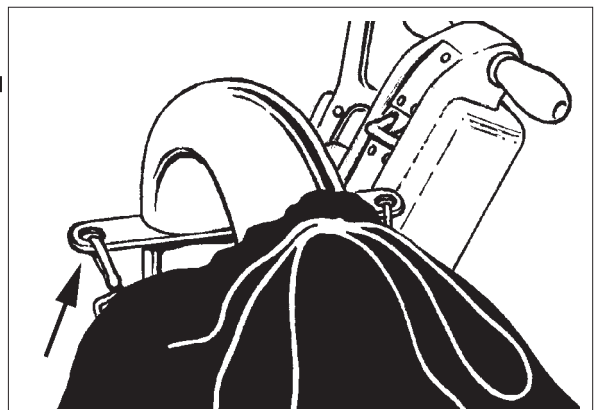

Figure 9
3. Clip the dust bag to the elbow. (See figure 9)